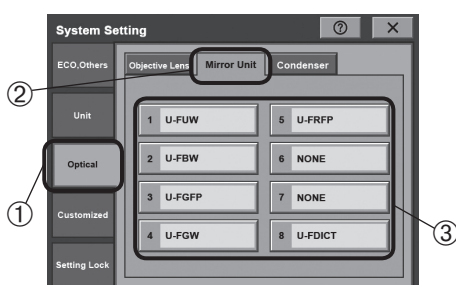

Fig. 11
1. Tap the [Optical] tab ① in the [System Setting] display to open the [Optical] display.
2. Tap the [Mirror Unit] tab ② in the [Optical] display (Fig. 11).